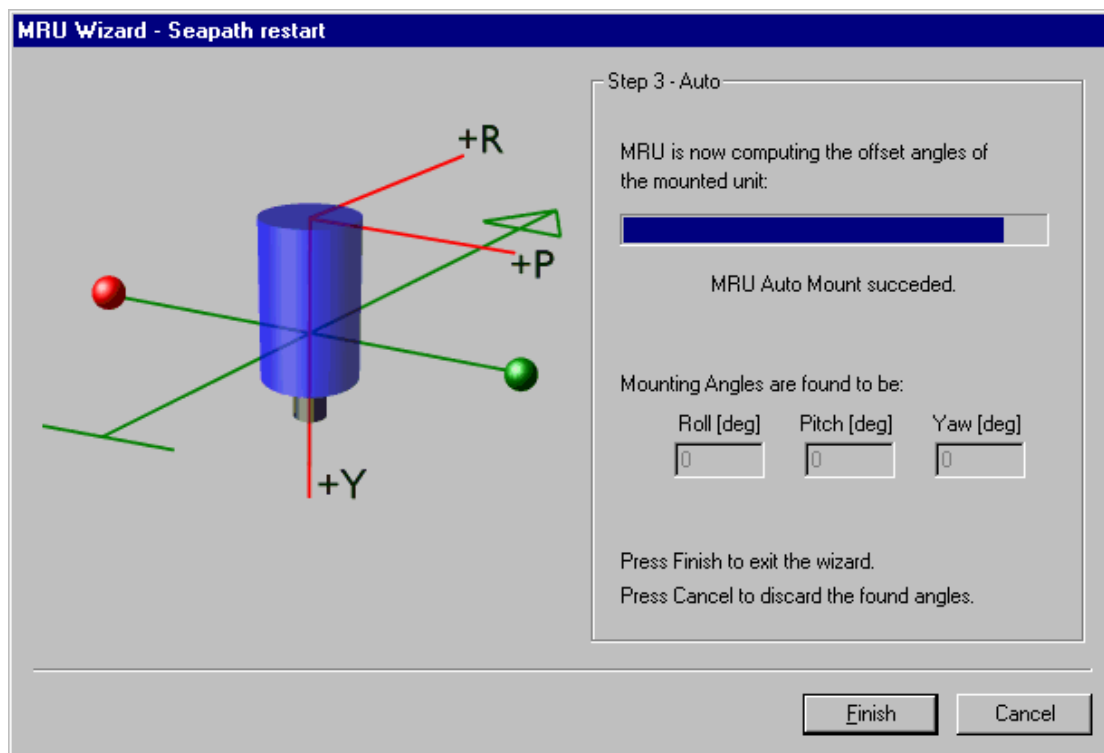

Figure 45 Step 3 of Auto MRU Axis Orientation
- Click **Next** to start the Auto Mount process. The window in Figure 45 will appear and the MRU offset angles are computed. A time-out bar shows the progress. When finished and the found mounting angles look OK, press **Finish**.